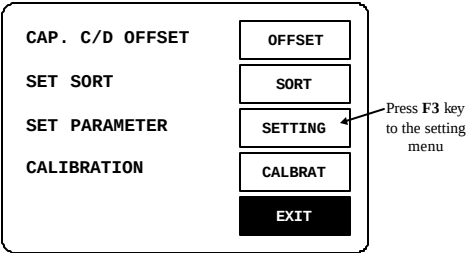

Figure 7-2
- Press **F3** key to select “SET PARAMETER” function. ( Figure 7-2)